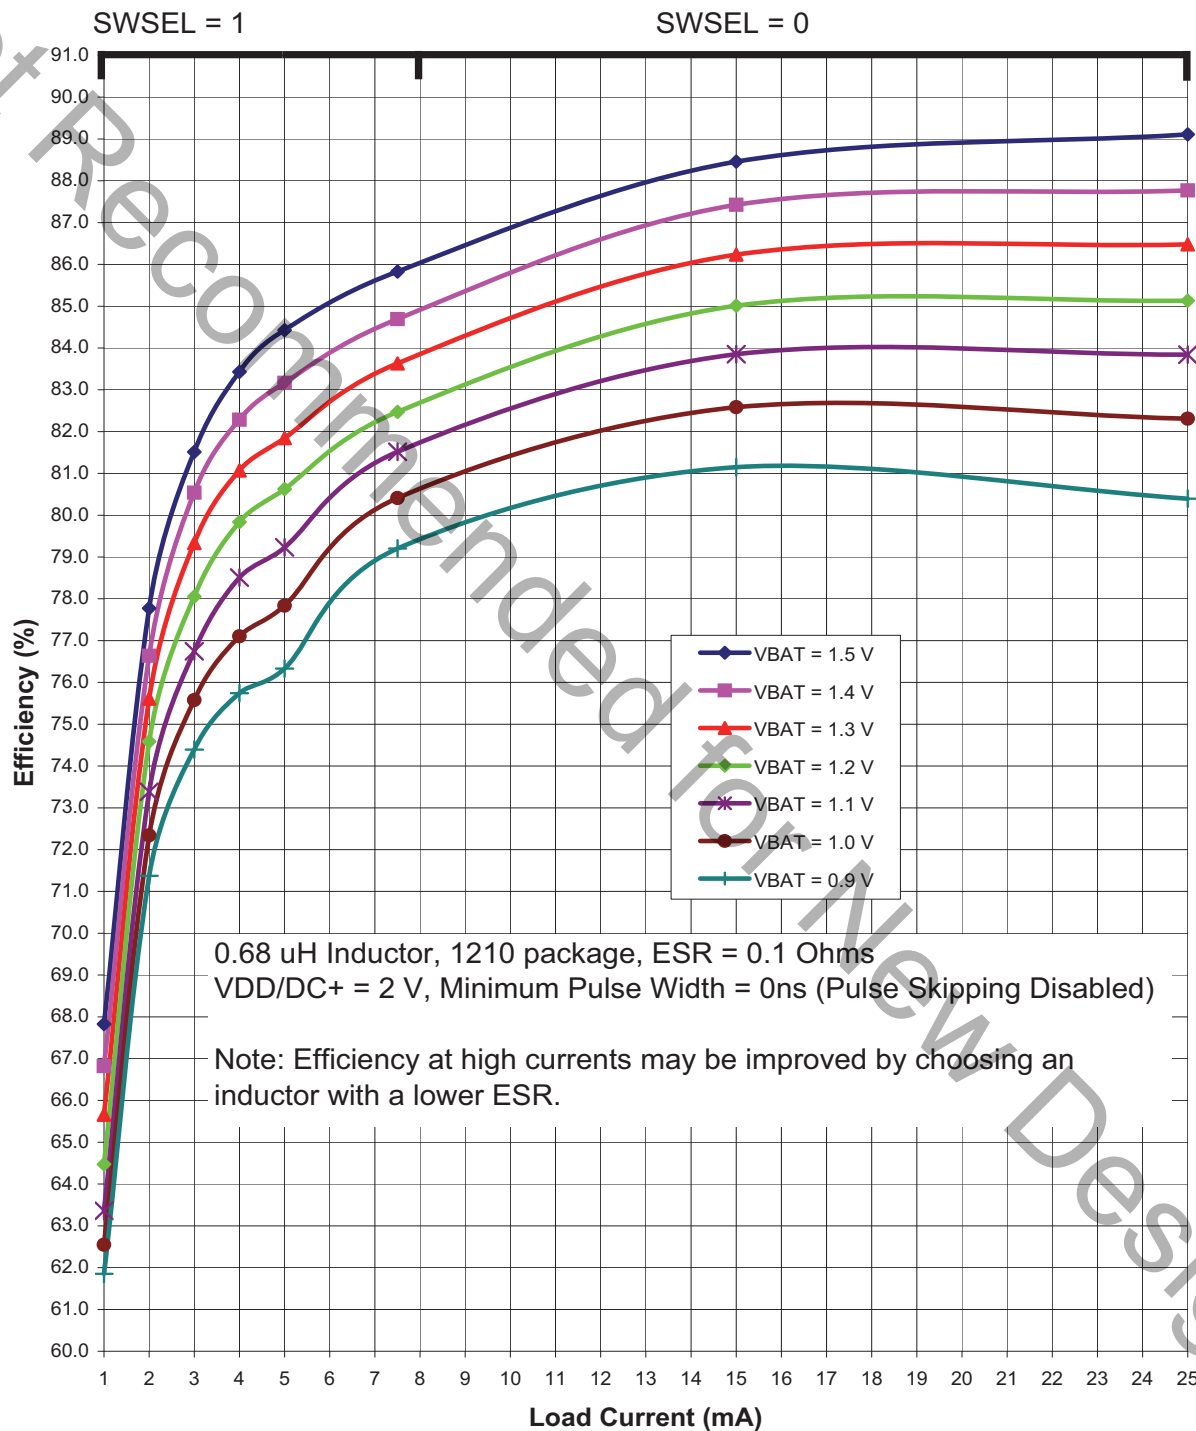

Figure 4.3. Typical DC-DC Converter Efficiency (High Current, VDD/DC+ = 2 V)
Notes: <ol style="list-style-type: none"> <li>Based on device characterization data; Not production tested.</li> <li>SYSCLK must be at least 32 kHz to enable debugging.</li> <li>Digital Supply Current depends upon the particular code being executed. The values in this table are obtained with the CPU executing an "sjmp \$" loop, which is the compiled form of a while(1) loop in C. One iteration requires 3 CPU clock cycles, and the Flash memory is read on each cycle. The supply current will vary slightly based on the physical location of the sjmp instruction and the number of Flash address lines that toggle as a result. In the worst case, current can increase by up to 30% if the sjmp loop straddles a 64-byte Flash address boundary (e.g., 0x007F to 0x0080). Real-world code with larger loops and longer linear sequences will have few transitions across the 64-byte address boundaries.</li> <li>Includes oscillator and regulator supply current.</li> <li>IDD can be estimated for frequencies <math>\leq 14</math> MHz by simply multiplying the frequency of interest by the frequency sensitivity number for that range, then adding an offset of 90 <math>\mu</math>A. When using these numbers to estimate <math>I_{DD}</math> for <math>&gt;14</math> MHz, the estimate should be the current at 25 MHz minus the difference in current indicated by the frequency sensitivity number. For example: <math>V_{DD} = 3.0</math> V; <math>F = 20</math> MHz, <math>I_{DD} = 4</math> mA – <math>(25 \text{ MHz} - 20 \text{ MHz}) \times 0.102 \text{ mA/MHz} = 3.5</math> mA assuming the same oscillator setting.</li> <li>The supply current specifications in Table 4.2 are for two cell mode. The VBAT current in one-cell mode can be estimated using the following equation:  <math display="block">\text{VBAT Current (one-cell mode)} = \frac{\text{Supply Voltage} \times \text{Supply Current (two-cell mode)}}{\text{DC-DC Converter Efficiency} \times \text{VBAT Voltage}}</math> <p>The VBAT Voltage is the voltage at the VBAT pin, typically 0.9 to 1.8 V.  The Supply Current (two-cell mode) is the data sheet specification for supply current.  The Supply Voltage is the voltage at the VDD/DC+ pin, typically 1.8 to 3.3 V (default = 1.9 V).  The DC-DC Converter Efficiency can be estimated using Figure 4.3–Figure 4.5.</p> </li> <li>Idle IDD can be estimated by taking the current at 25 MHz minus the difference in current indicated by the frequency sensitivity number. For example: <math>V_{DD} = 3.0</math> V; <math>F = 5</math> MHz, Idle <math>I_{DD} = 2.1</math> mA – <math>(25 \text{ MHz} - 5 \text{ MHz}) \times 0.079 \text{ mA/MHz} = 0.52</math> mA.</li> </ol>